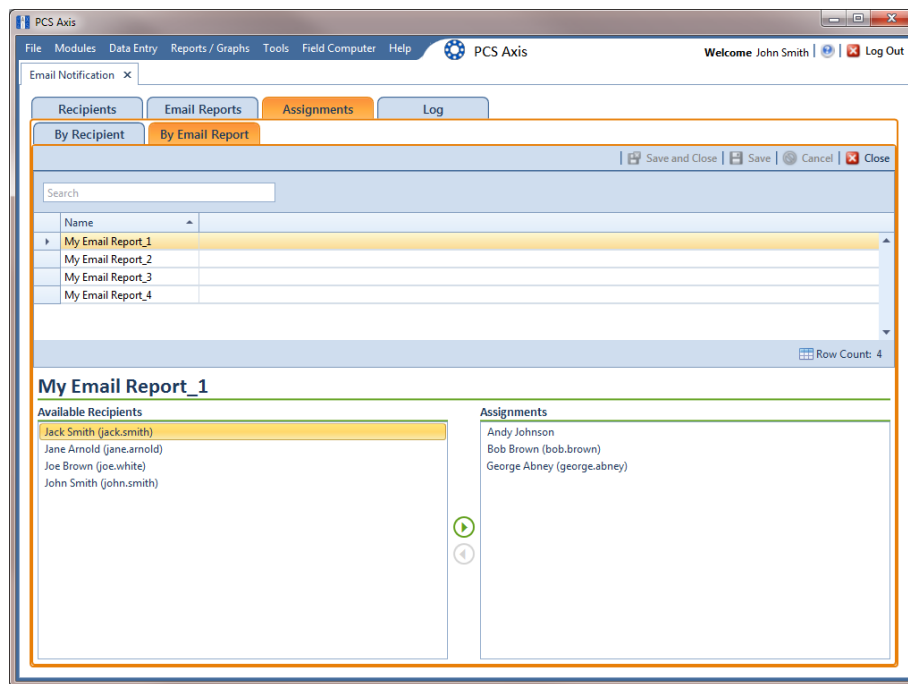

Figure 12-13. Assignments by Email Report
- a** Click **By Email Report** **By Email Report** (Figure 12-13).